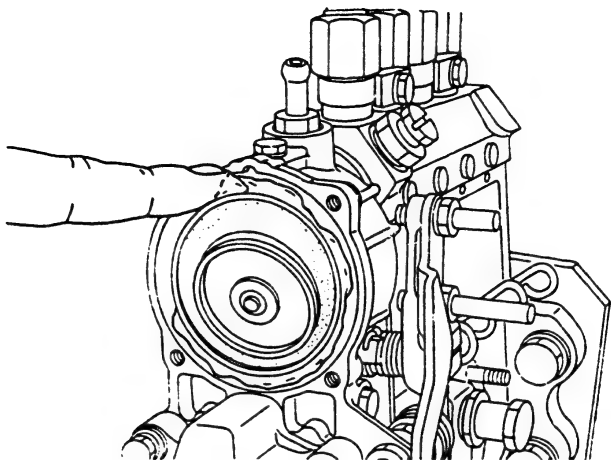

Fig. 52 Applying grease
3. Apply grease to the contact surfaces and caulkings of the diaphragm to prevent leakage of air. (Fig. 52)